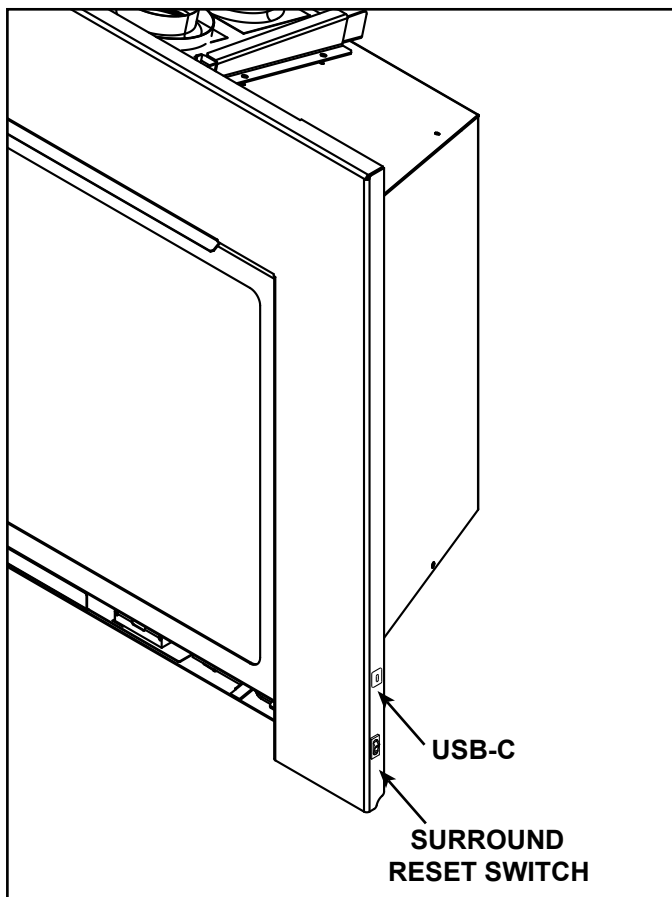

Figure 3.8 Surround Reset Switch and USB-C Battery Backup Port
- Toggle the appliance reset switch to the off position. See Figure 3.8 for reset switch location **OR** set the IFT2-ECM 3-position selector switch to OFF position.
- Wait five (5) minutes to allow possible accumulated gas to clear.